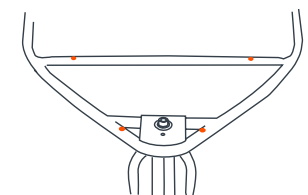

Fig. 5b
- These tubes must be lined up with the holes in the front frame assembly (Fig. 5b).